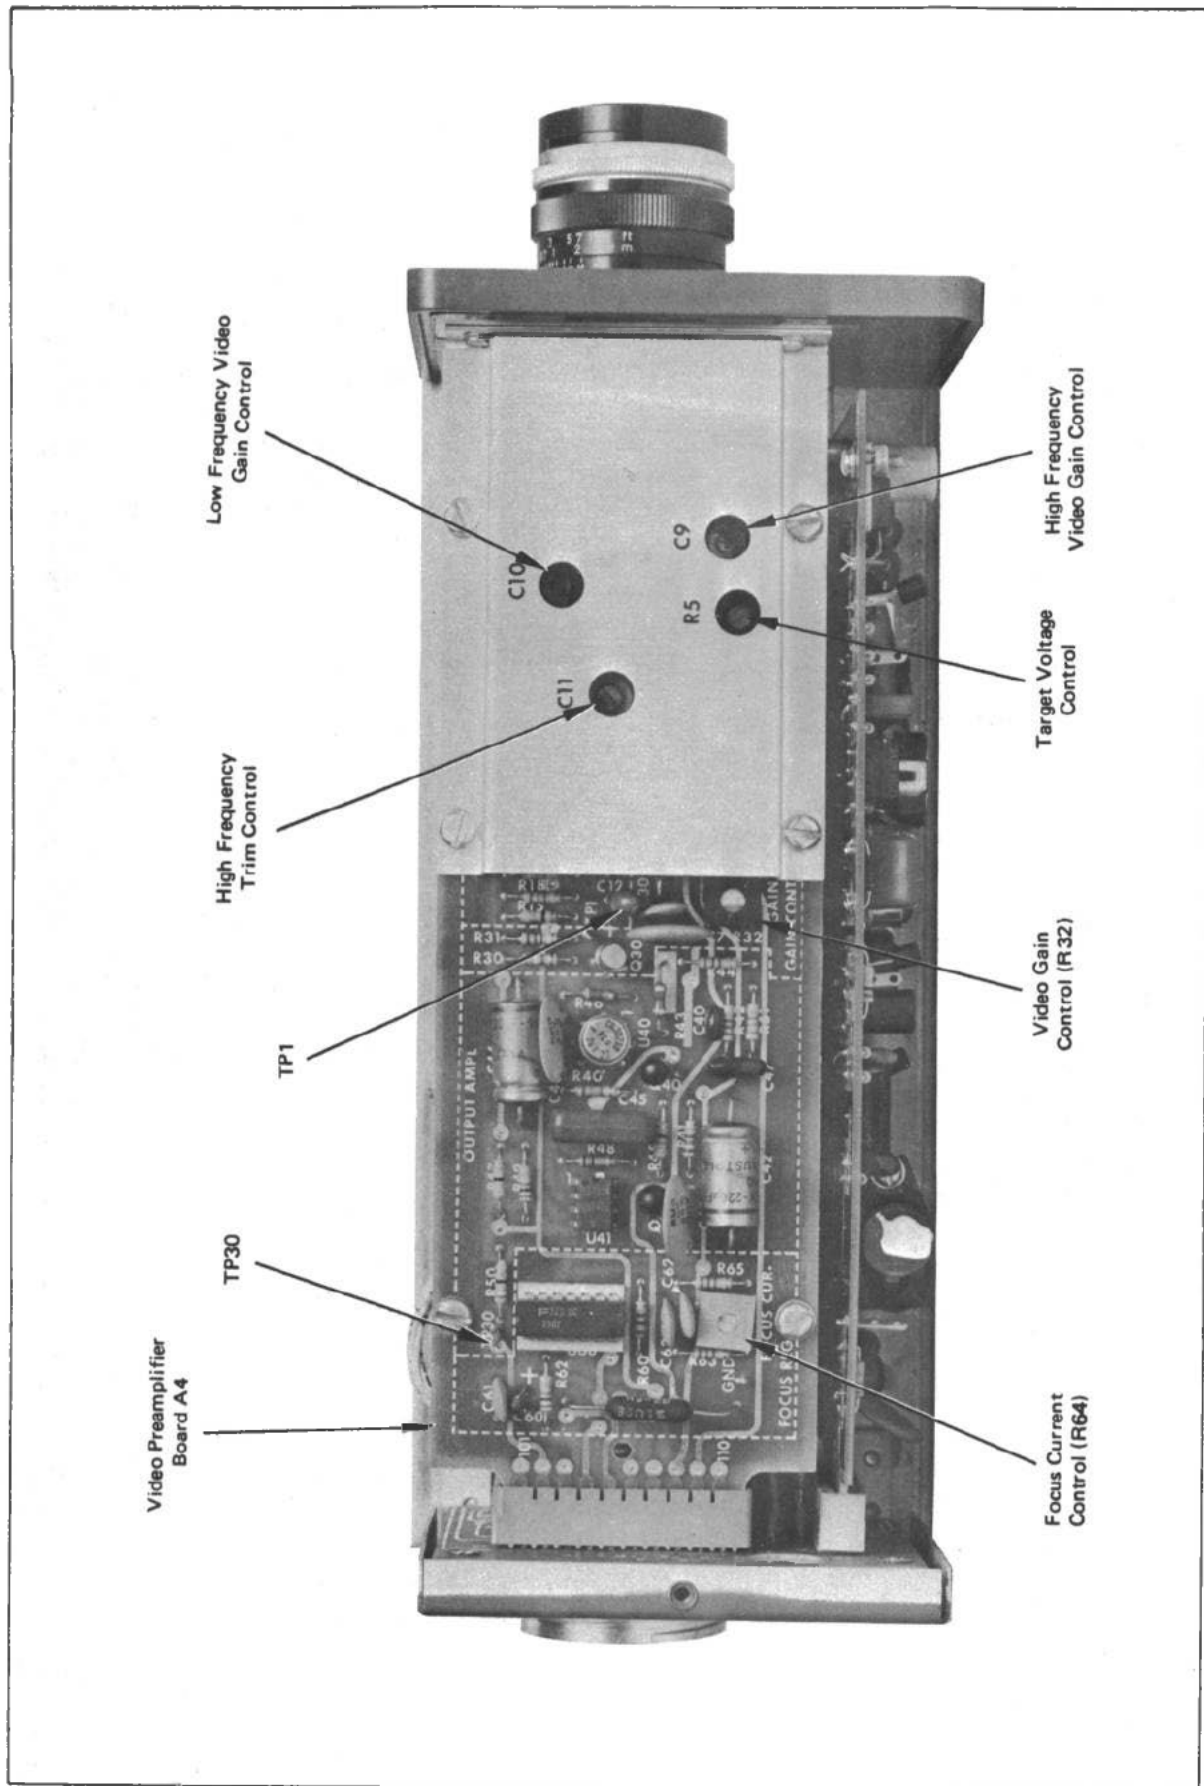

Figure 2-3. Interior View of 7120 Series Camera Facing Video Preamp Board A4
- d. Using an oscilloscope with a low-capacity X10 attenuator probe (Paragraph 2-8), monitor the video output signal of the camera at TP30 (Figure 2-3) on the video preamplifier board.
- e. Set C9, C10 and C11 (Figure 2-3) on the video preamplifier board for flattest frequency response out to 32 MHz.
- f. If camera is to be operated with AUTO-MAN jumper on video preamplifier board in the MAN position, set R32 (Figure 2-3) so the amplitude of the video signal is 0.2 volt peak-to-peak in the low-frequency region at TP30 on the video preamplifier board.
- e. At video preamplifier subassembly (Figure 2-3) set focus current control R64 for best resolution of tapered lines in vertical wedges of test pattern image on TV monitor raster. Adjust the GAIN and BLANK controls on front panel of the camera control as needed to maintain a good picture. If picture will not focus satisfactorily, check that distance between lens and target in image tube is correct (Paragraph 1-11, steps 1 through 4).